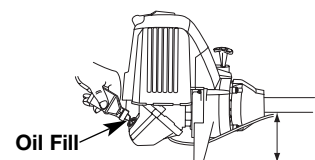

Fig. 8
2. Place the unit on a flat level surface (Fig. 8).